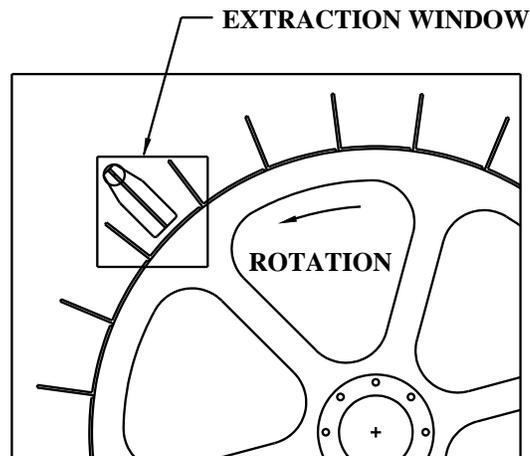

Figure 1 - CORRECT SETUP
2. When rotation stops by itself, open the oven doors (this should kill power to the control panel). Check if the ingot extraction "club" is centered between the wheel push paddles so that it will clear the paddles and that the top of the paddles are within the extraction window opening as shown in **Figure 1**. (NOTE: If your ingot preheater/loader rotates in the opposite direction as the example, visualize Figures 1, 2 & 3 as exact mirror opposites to those shown.)
3. If the paddle limit switch located on the front of the machine is not set correctly the wheel can rotate too far as shown in **Figure 2** above. If the paddles should move too far, the ingot can catch on the bottom of the extraction window when the extraction club attempts to extract it (refer to "A" in **Figure 2**). Also, if the extraction club should be positioned too close to the upper paddle making the gap between the club and the ingot too large (refer to "B" in **Figure 2**), it is possible the club could miss the ingot entirely when it attempts to extract it. Either of these errors can be eliminated by adjusting the limit switch so the extraction club is centered between paddles when stopped by the switch as shown in **Figure 1**.